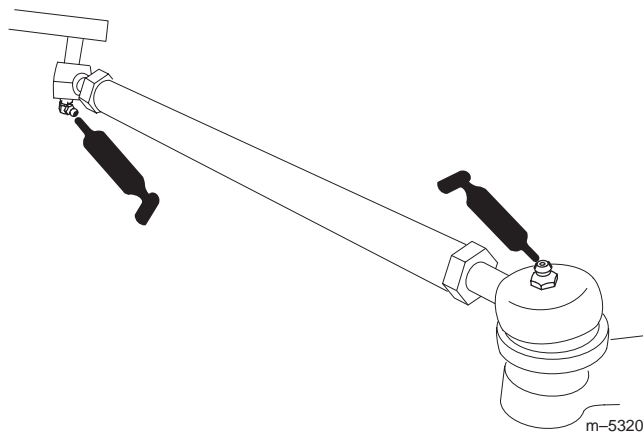
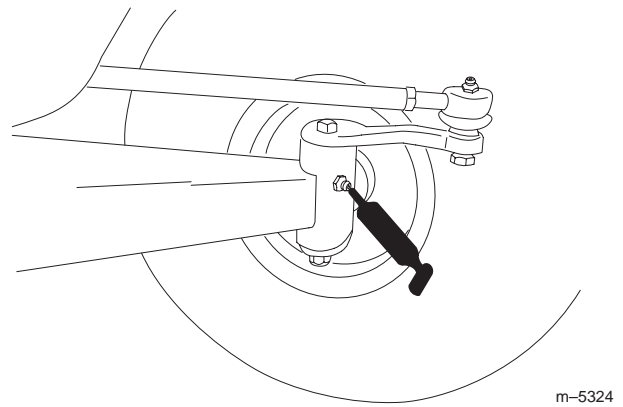

Figure 19
Figure 20
The grease fitting locations are at the tie rod ends (4) (Fig. 19) and the king pins (2) (Fig. 20).